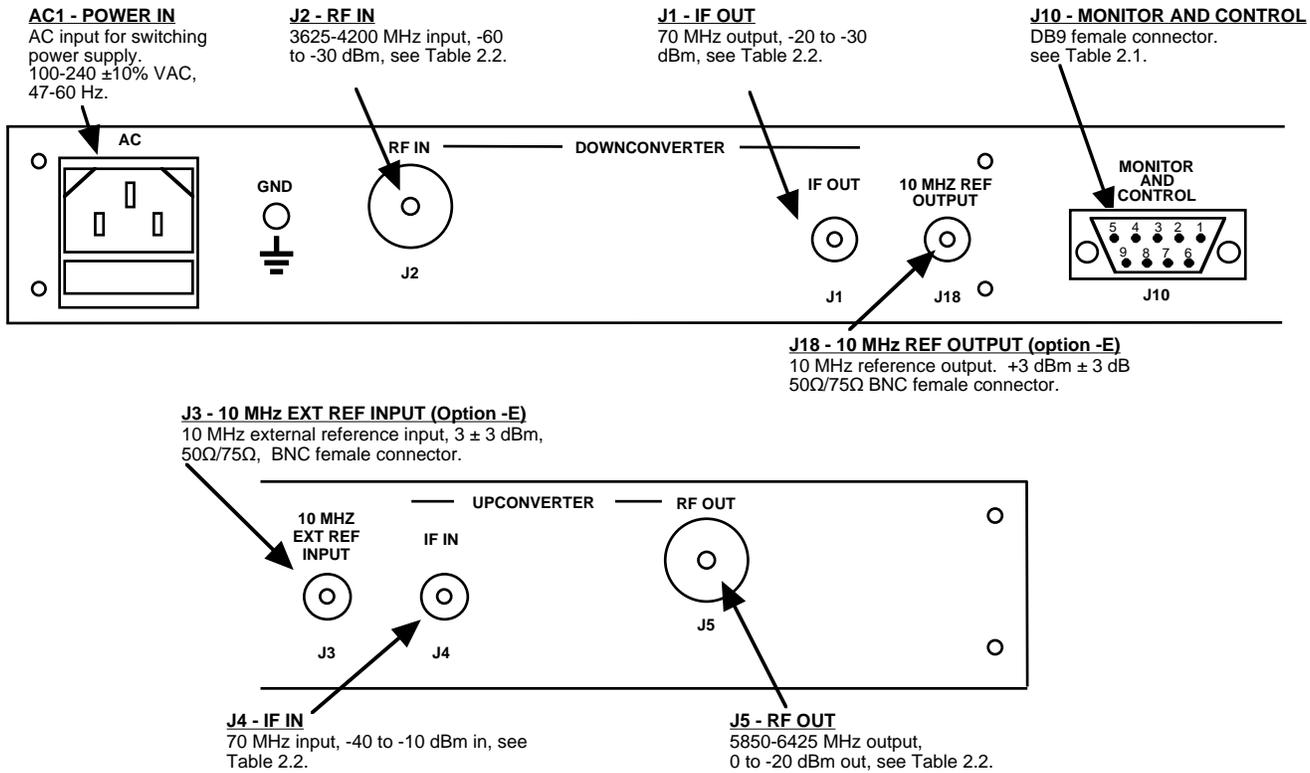

Figure 2.1 Model 2017-35 Rear Panel I/O's
2.2 Rear Panel Input/Output Signals and Control - Figure 2.1 shows the input and output connectors on the rear panel.
- 1.) Connect a -10 dBm to -40 dBm signal to IF In, J4 (Figure 2.1).
- 1.) Connect a -70 dBm to -20 dBm signal to RF In, J2 (Figure 2.1).